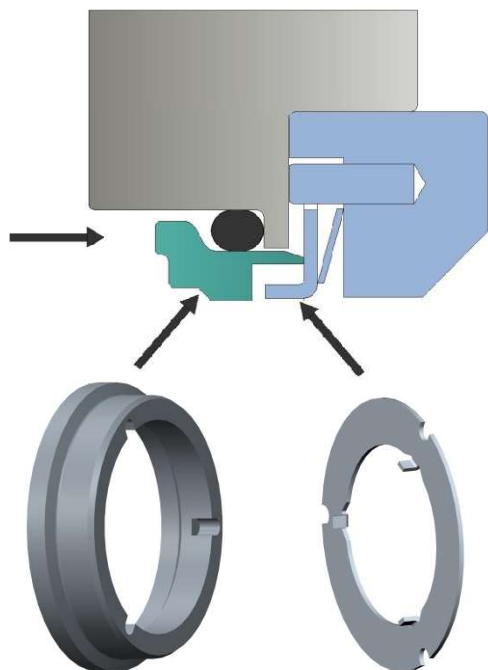

Figure 20 - Fitting stationary seat
- Fit the O-ring (83) to the static primary seal face and lubricate the bore in the rotor case with a suitable lubricant compatible with the pumped fluid and the elastomer.
- Align slots in the seal face with tabs of drive plate in the seal housing; a small cut-out is provided so one drive tab can be seen (Figure 20).